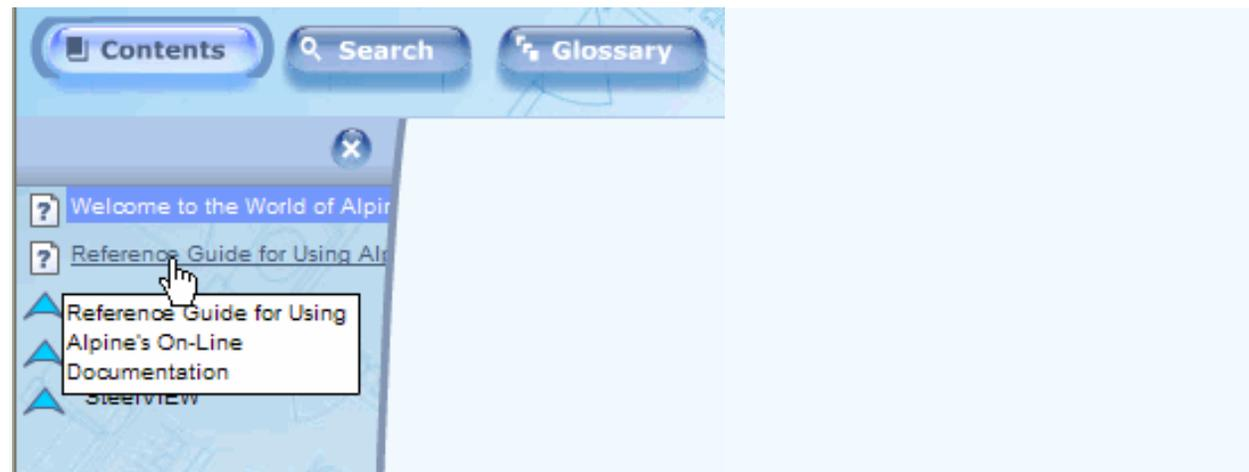

Figure-03
- ◆ If the size of the **Table of Contents (TOC)** column is not large enough to view the entire topic title, hover your mouse over the **TOC** title. After a few seconds the full topic title appears in a pop-up window (*Figure-03*). When the mouse is moved off of the title, the pop-up disappears.